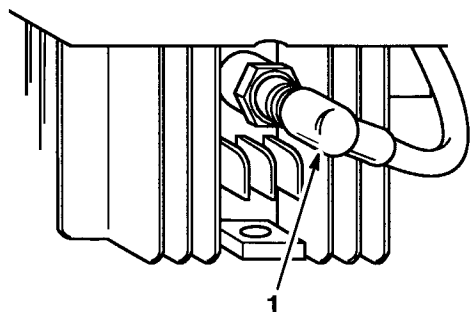

Figure 22
1. Pull wire off spark plug (Fig. 22). Remove spark plug and clean with a wire brush, removing carbon build-up. **DO NOT SAND BLAST.** Check condition of plug for cracks and damaged or worn electrodes. Replace if necessary.
3. Install spark plug by hand, then torque to 180 in.-lbs. (15 ft.-lbs.) (20 N·m) (Fig. 22).
1. Disconnect spark plug wire (Fig. 22).
5. Reconnect spark plug wire when maintenance is completed (Fig. 22).